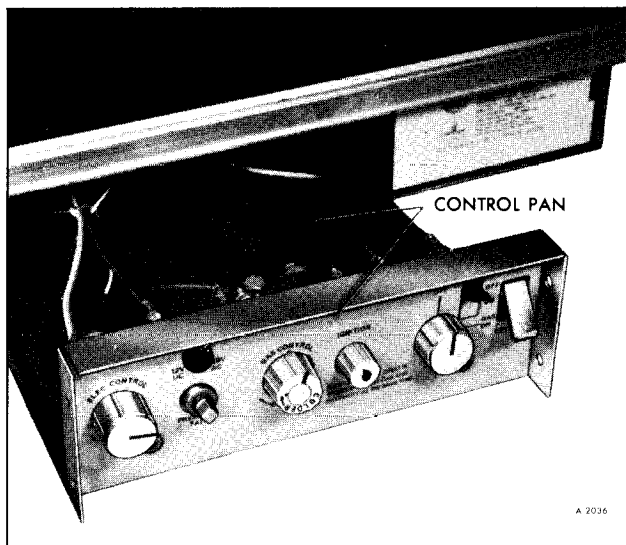

Figure 10—Control Pan (Front)
8. Slide control pan out as shown in Figure 10.
## CONTROL PAN INSTALLATION (FIGURE 10)